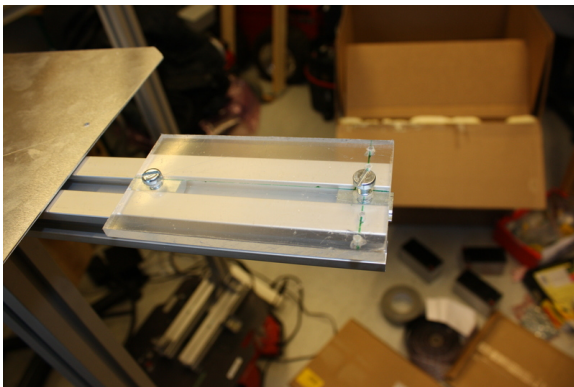
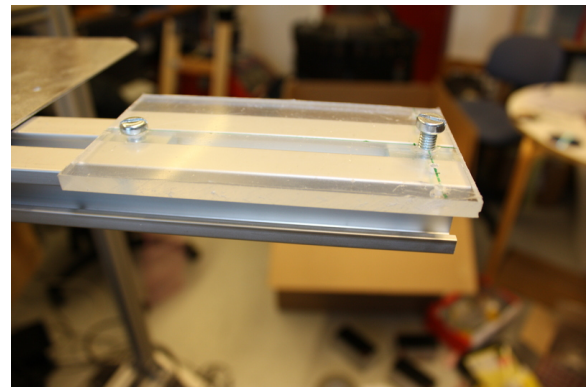

Figure 34: PTU base plate position
Figure 35: PTU base plate mounting
5. The PTU base plate is mounted using a **M6x12 slot screw** at the rear end and a **M6x16 slot screw** at the front end. To fix the PTU plate, position it such that the front edge is flush with the front edge of the top beam (figure 34). Then put a M6x12 slot screw in the rear hole, and an M6x16 slot screw in the front hole. Tighten both screws till they enter the nut in the beam slot below. This orients the PTU plate properly. Then, **tighten the rear screw completely. Only the rear screw** (figure 35). Remove the front screw from the front hole.